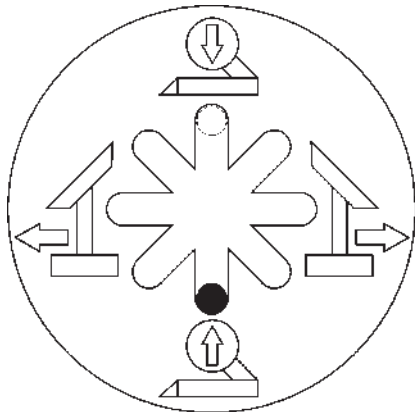

Fig. 6
C. Operate the 8-position switch as shown in Fig. 6: the chuck arm moves up. Operate the switch in the opposite way to lower the chuck arm.